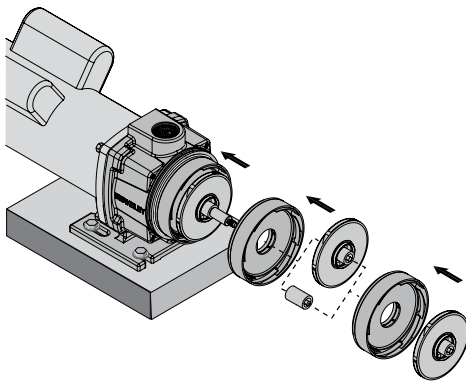
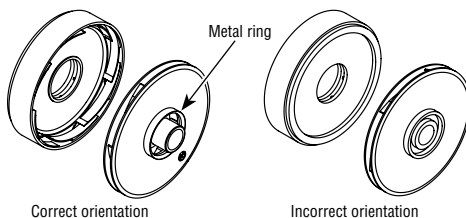

Figure 24
Figure 25
4. Slide a diffuser onto the shaft (open face out) until it seats on the bracket (see Figure 24). Follow the diffuser with an impeller on a four-stage pump or with the stainless steel spacer if a three-stage pump. Engage the molded impeller key in the slot in the shaft. Don't force it! Be sure that the impeller eye, with metal ring, faces out (forward - see Figure 25).